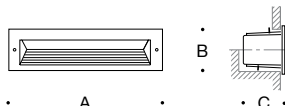

Figure 1: Included brackets
1. Install (2) slotted mounting brackets provided as shown in Figure 1, using the (4) self-tapping T25 torx head screws provided with the included kit (Kit #73).